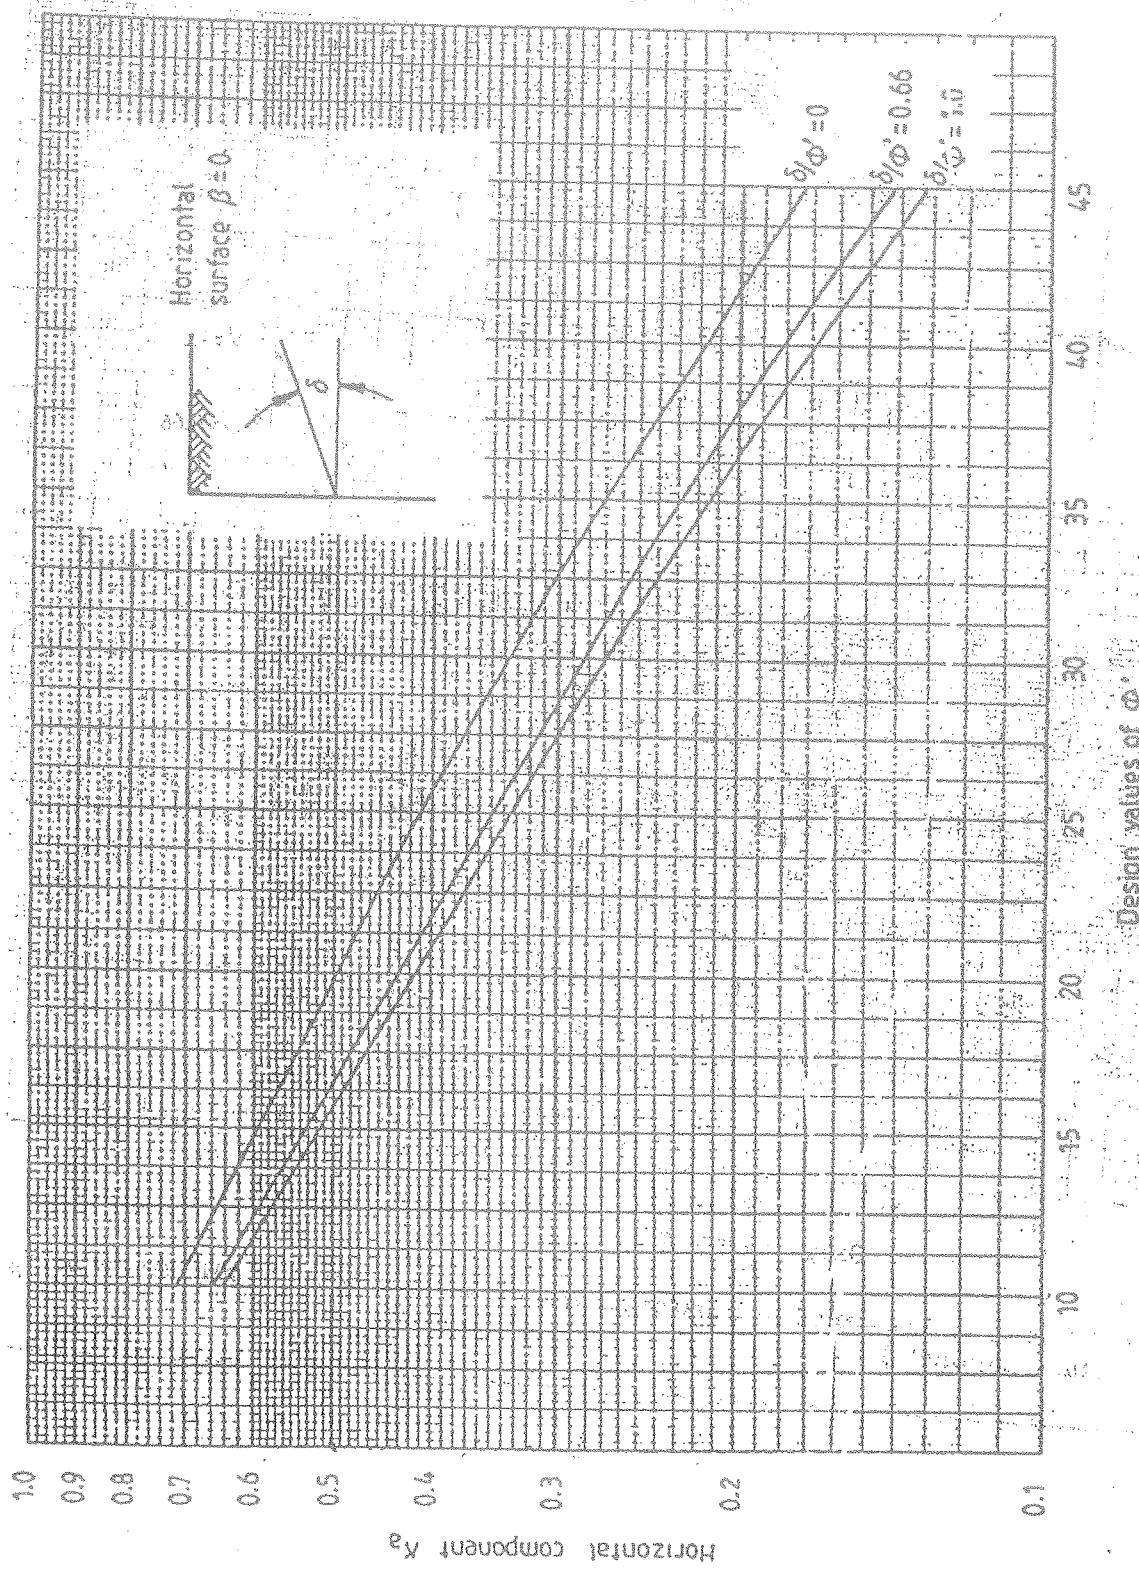
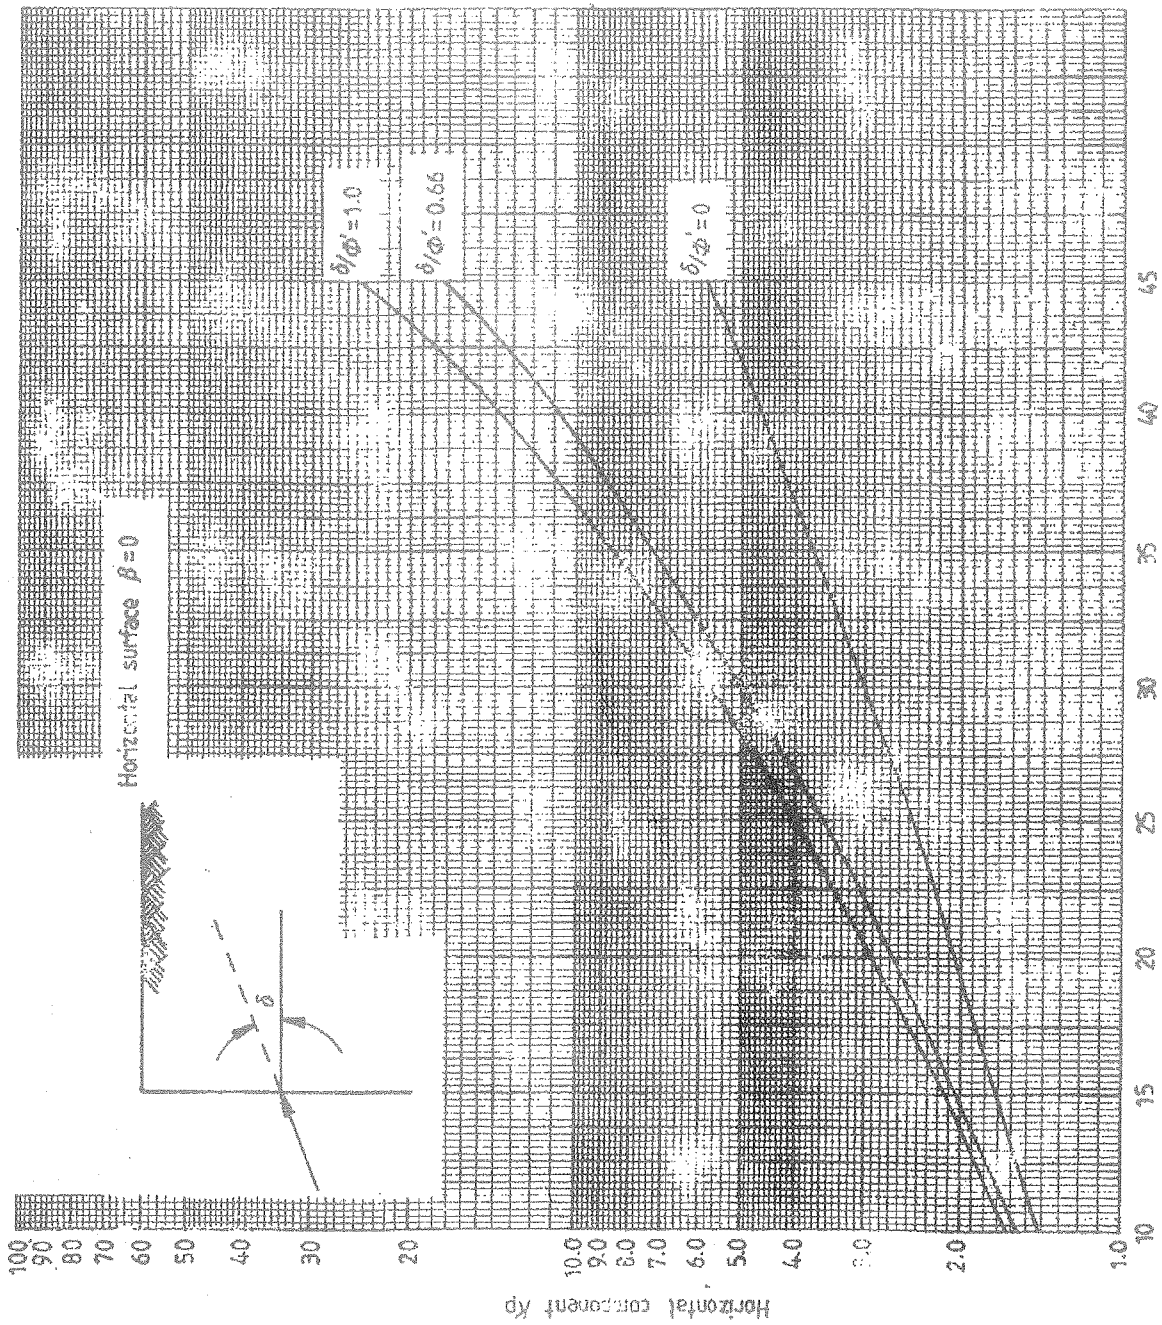

Figure Q1.1 Variation of K_a with ϕ'_{design}
Figure Q1.2 Variation of K_p with ϕ'_{design}
- b) Sometimes after the construction is completed, a steady state flow condition with the given water levels will be established. Evaluate the stability of the proposed wall according to BS 8002 using Free Earth Support method. Figure Q1.1 and Figure Q1.2 may be useful in the calculations. [6.0 Marks]